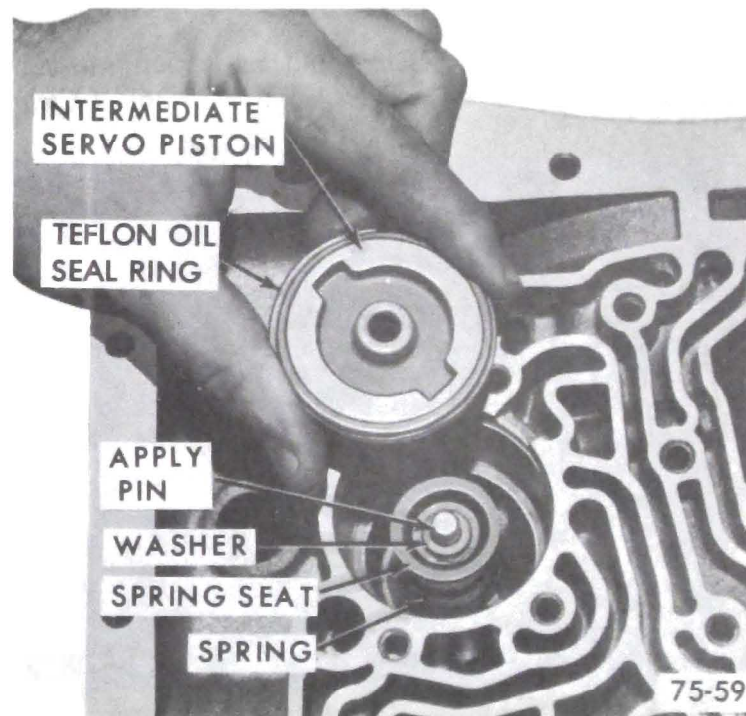

Figure 75-267
2. Install intermediate servo piston, apply pin, spring seat. See Figure 75-267.